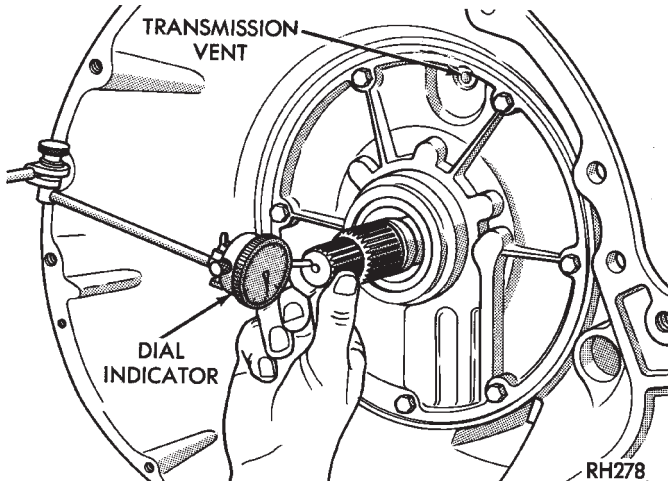

Fig. 159 Checking Input Shaft End Play
(1) Measure input shaft end play (Fig. 159).
(2) Attach dial indicator to converter housing. Position indicator plunger against input shaft and zero indicator.